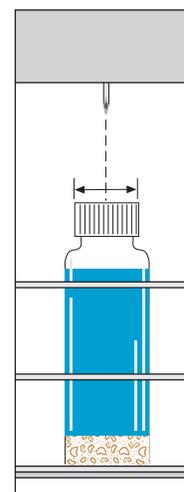

Figure 4.4. Needle alignment
- Center the needle above the vial by manually moving the platter under the carousel (Figure 4.4.).